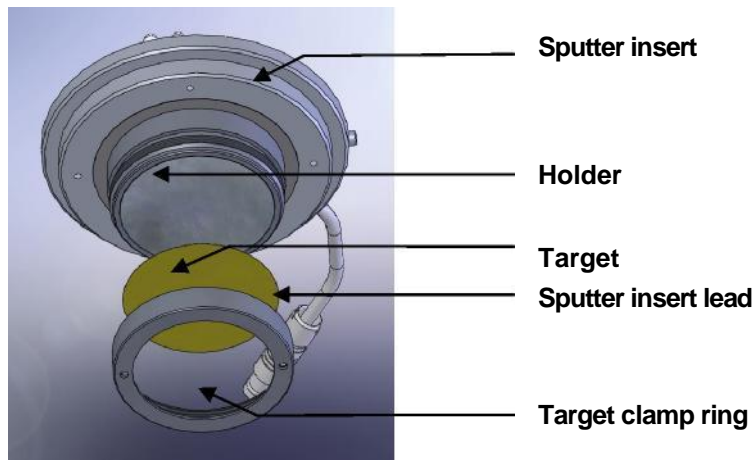

Figure 7-2. Sputter insert and target assembly
- a. Unscrew the target clamp ring (see Figure 7-2)